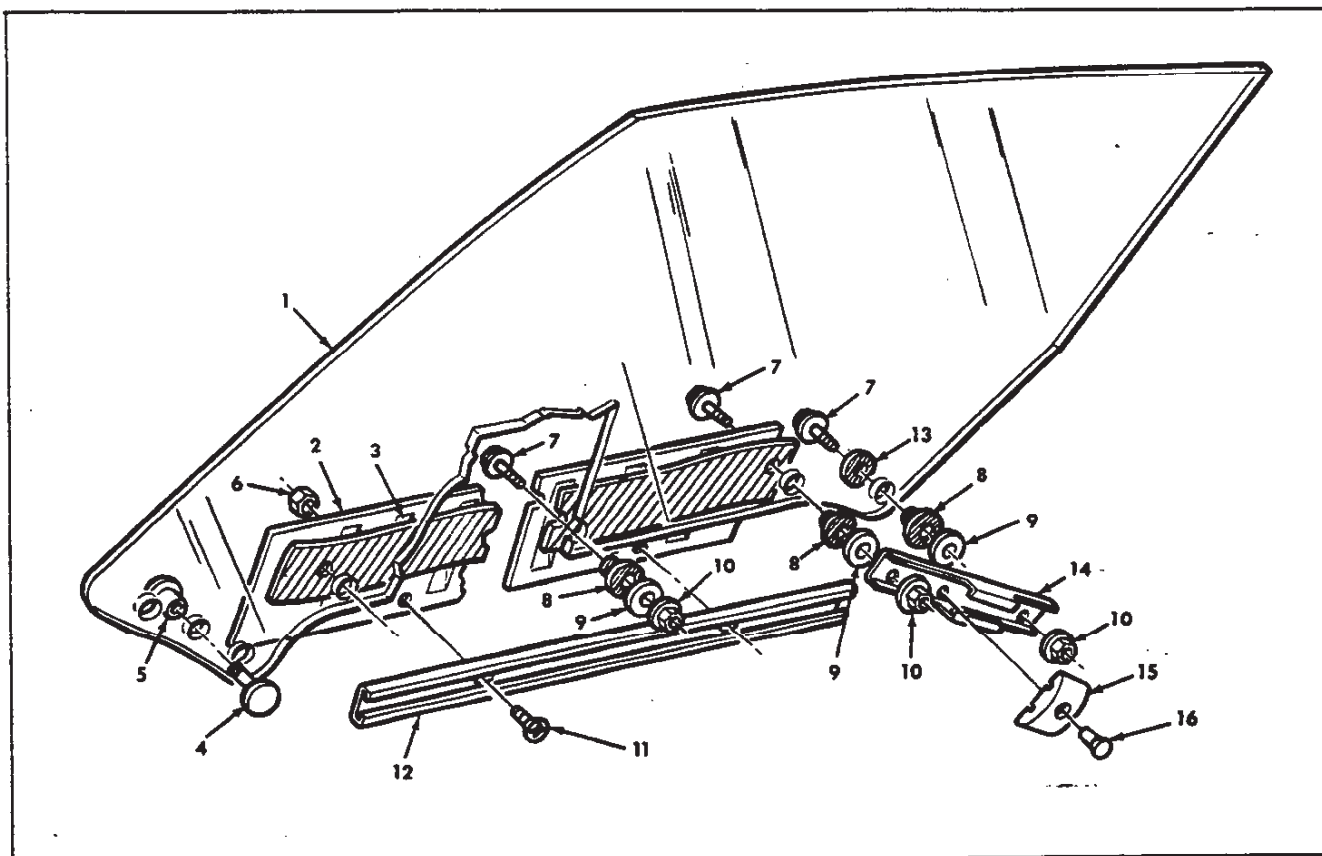

Fig. 25—Glass and Frame Assembly
If replacement glass is necessary, disassemble two (2) pads and fasteners, and frame assembly by removing three (3) mounting bolts through glass (fig. 25). Mount frame assembly and pads onto new glass before installation into door.